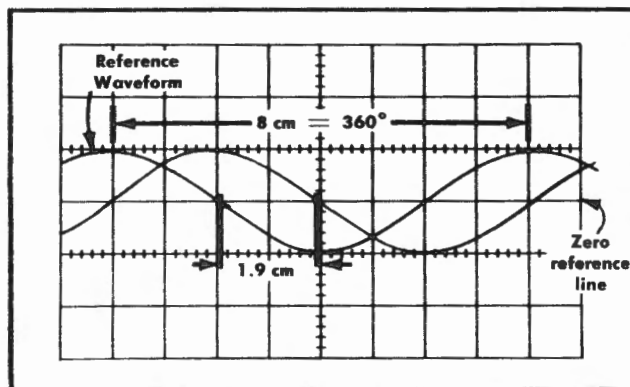

Fig. 3-7. Phase-difference measurement from a linear dual beam display calibrated at 45°/cm.
4. Adjust the sweep rate with the TIME/CM and VARIABLE controls so that 1 cycle of the reference waveform covers 8 cm of the graticule, to calibrate the sweep at 45°/cm (see Fig. 3-7).